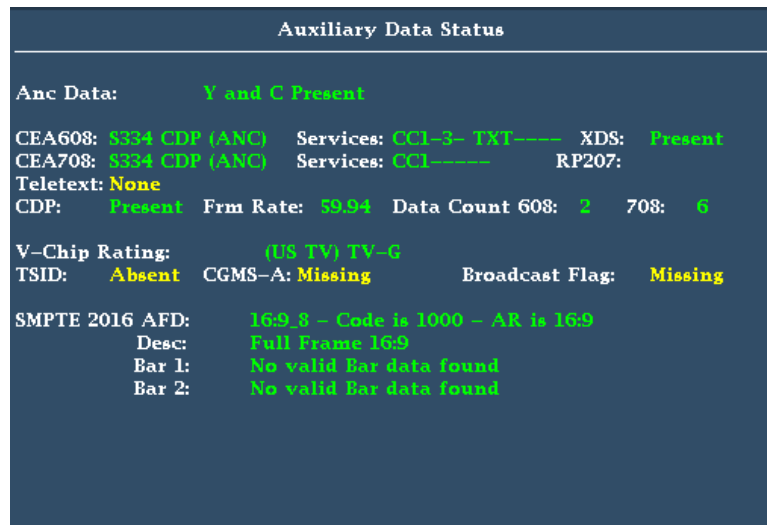

Figure 72: Auxiliary Data Status display
4. Select **Aux Data Status**. The Auxiliary Data Status display shows the status of the closed caption data. (See Figure 72.)
View the graticules in the Picture display. AFD information can viewed in the Auxiliary Data Status display. (See Figure 72 on page 151.)